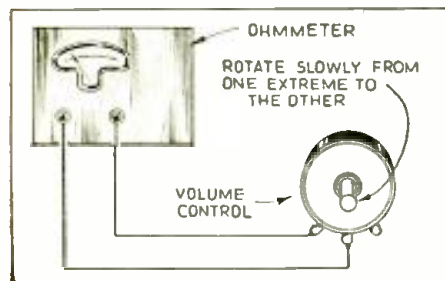

Fig. 4. Ohmmeter helps sell new variable resistors by demonstrating defects in old units.
**D**EMONSTRATING VARIABLE RESISTANCE FAULTS. Figure 4 shows a way to demonstrate to the customer that a volume control or other variable resistance is defective. When testing volume controls from your "junk-box" for being "noisy," and when wishing to demonstrate the defectiveness of a noisy unit (Continued on page 760)
So as to obtain an overall response characteristic that would meet the approval of the most critical, the audio system was given a rising characteristic with frequency. This is shown in Fig. 4 where *relative response in decibels* is plotted against *frequency in cycles per second*. Curve B shows the relative response in decibels of the audio system. In obtaining this curve a signal was fed into the grid circuit of the 6F5 and the output voltage was measured from plate to plate of the 6F6's. During these tests the speaker was connected in the circuit rather than using non-inductive plate loads on the 6F6's. It will be noted that curve B was obtained with no condensers from plate to ground on the power output tubes.